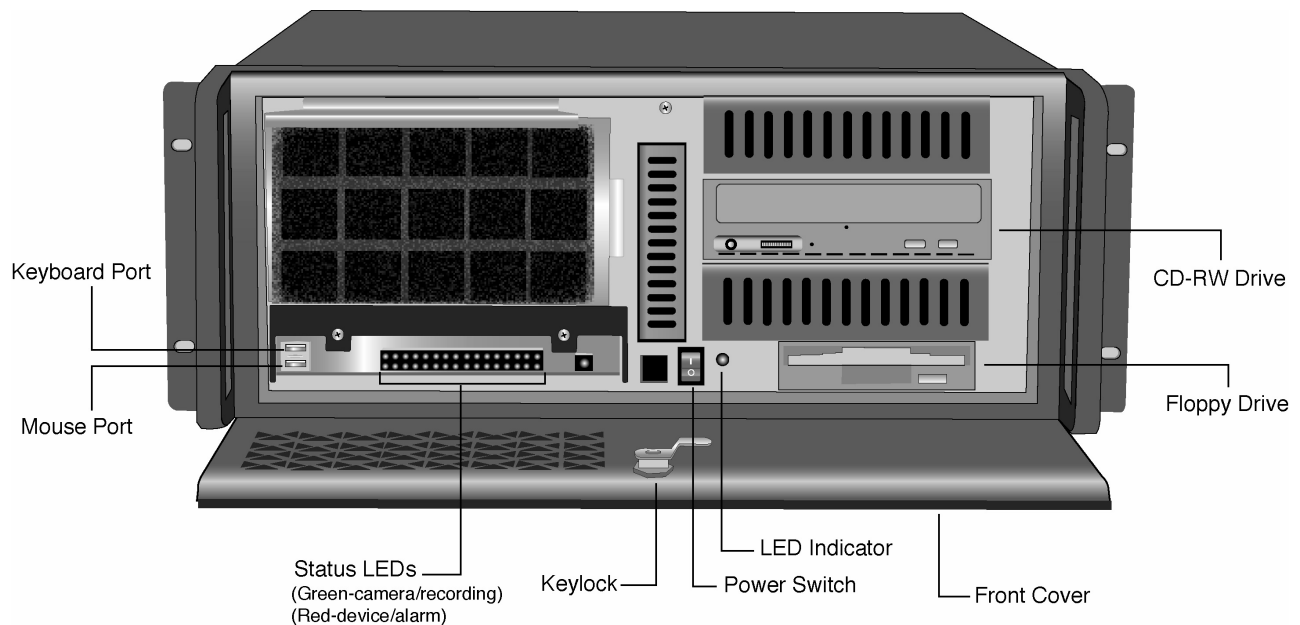
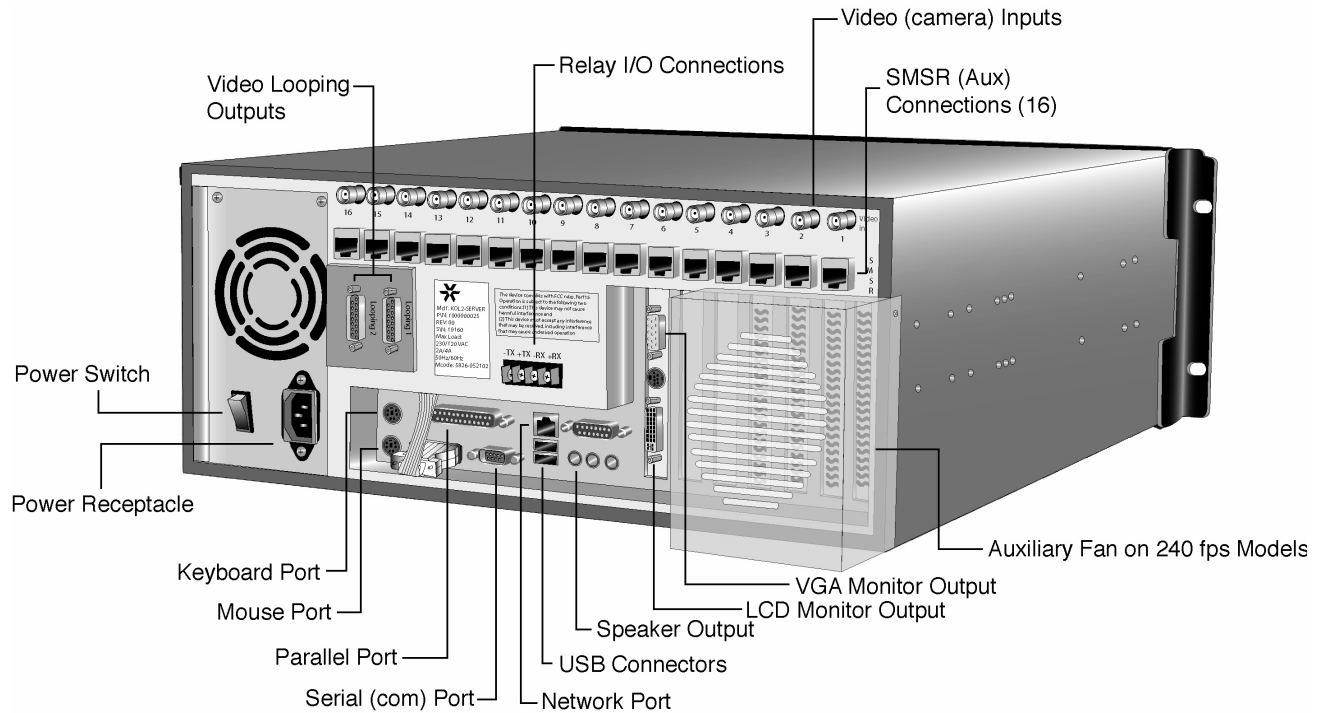

Figure 3-1: Front Panel Layout
Figure 3-2: Rear Panel Layout
1. Perform the following connections (refer to Figure 3-1 on page 5 and Figure 3-2 on page 6):
4. Connect the RJ45 cable to the appropriate channel in the rear panel (refer to Figure 3-2 on page 6).